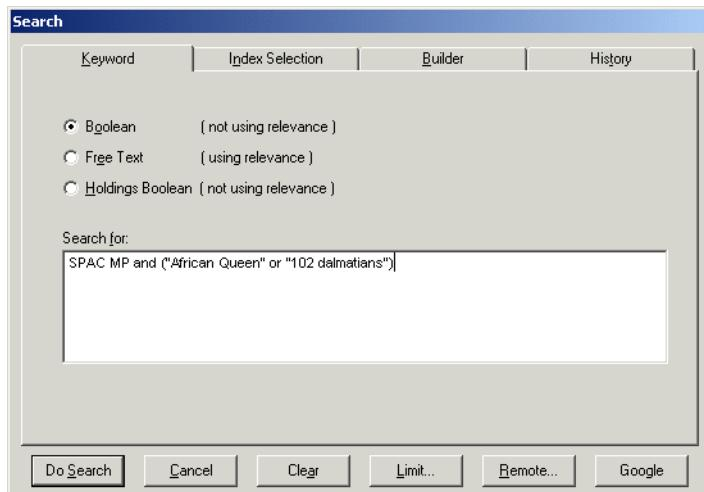

Figure 2-65. MFHD-Bibliographic Combined Keyword Search - command line example
Example: The following is an example of a command-line search for "102 Dalmatians" or "African Queen" in the motion picture collection where SPAC is the Voyager code for the indexed 901 \$a holdings field and MP is the code representing the motion picture collection stored in the 901 \$a . See Figure 2-65 and Figure 2-66.
The SPAC code may be used in a command-line search to identify the index to be searched. See Figure 2-65.
- And, or, or not boolean logic may be used to separate each index and term/phrase combination in a command line search as in Figure 2-65